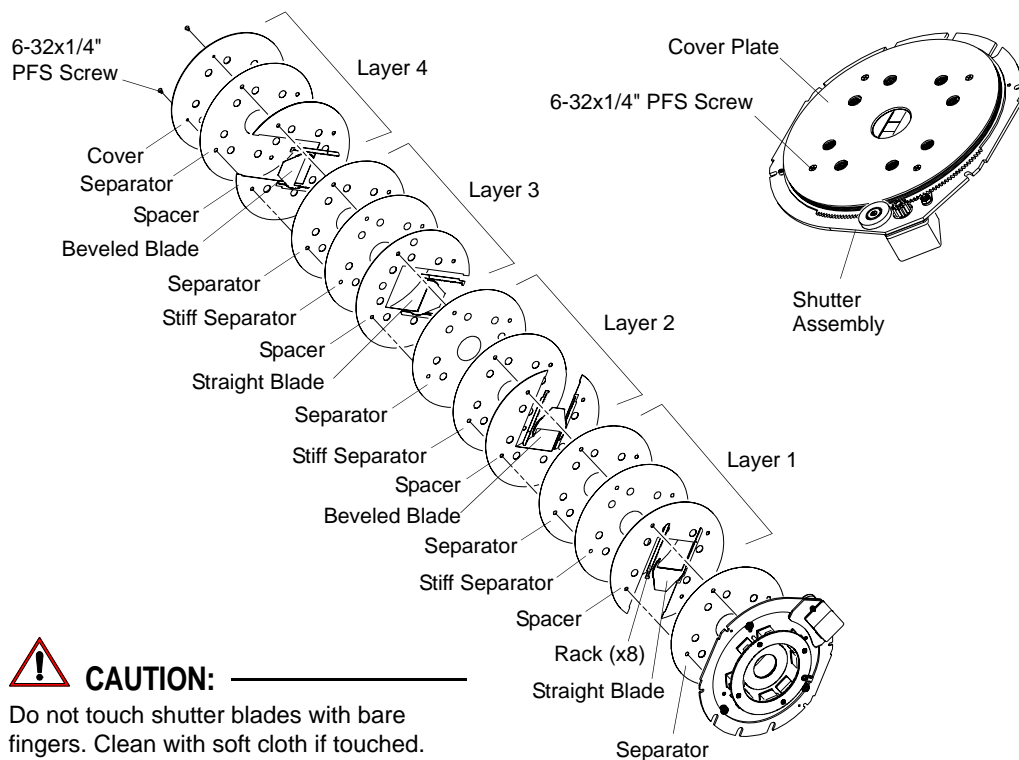

Figure 2-16: Shutter Assembly Breakdown
- Step 3. Place shutter assembly on work bench, motor side down. Remove four 6-32x1/4" PFS screws and remove cover plate (Figure 2-16).